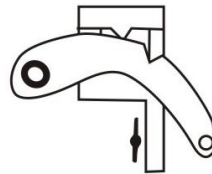

Fig.2.
Taking all necessary precautions, take the load with the jack (i.e., jack the load up slightly), and ensuring the handle is in the FULLY UPRIGHT position, trip the Reversing Latch (20)so that it is in the "Down" position,i.e., the indentation on the Latch, becomes disengaged from the notch on the reversing Switch (see fig.2). Keeping a firm grip on the handle, pump it as you would for 'raising a load.'